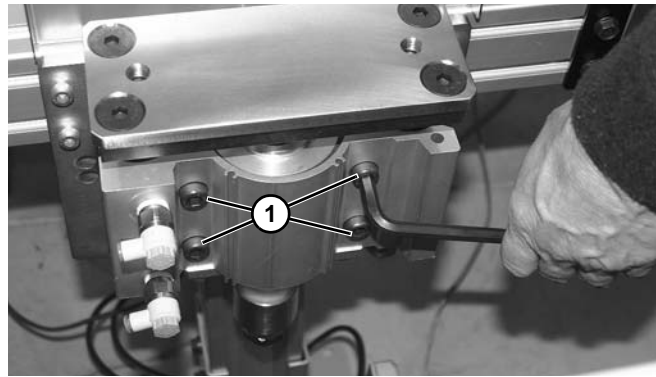

Figure 109
13. Remove four screws (**Figure 109, item 1**) securing lift cylinder.